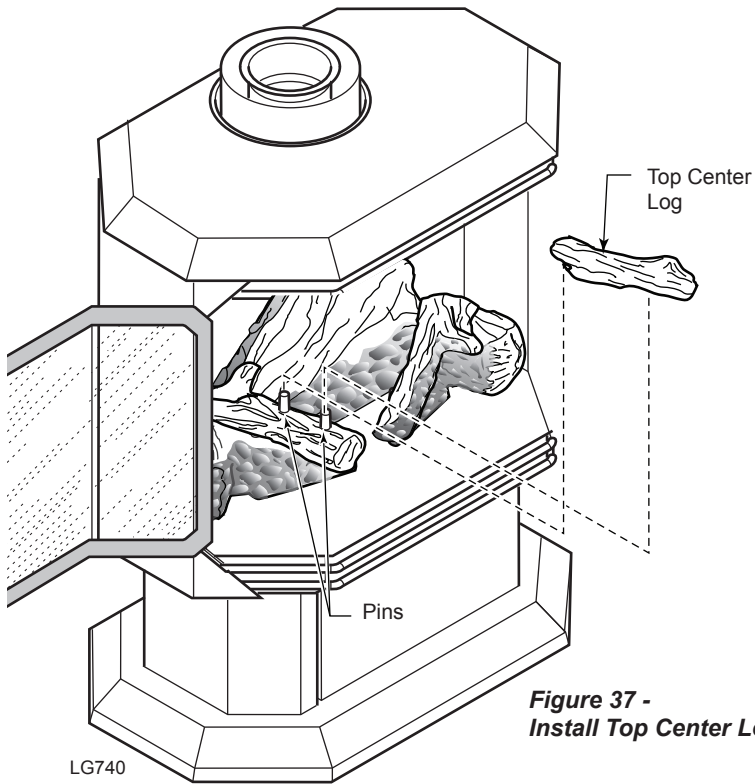

**Figure 35 -
6. Place top left log on left base log. Line up the hole in the bottom of the top log with the locating pins on the bottom log. *Figure 35*